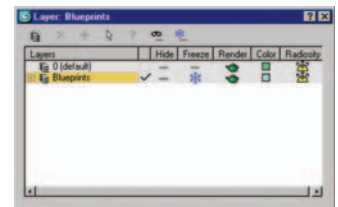

Figure 7.16 Layer Manager with the Blueprints layer frozen.
11. The final step: with all of the planes still selected (select them if they aren't already), open the Layer Manager and click Create New Layer (containing selected objects), and name the new layer "Blueprints." To the right of the layer name, you will see columns for Hide, Freeze, etc. Click the Freeze slash to "freeze" the blueprint layer (slash will turn into a snowflake). Close the Layer Manager. What you are left with is blueprints displayed in your viewport that are frozen and not selectable or renderable. This is great because you can also toggle the visibility of the blueprints independent of the other objects in your scene by using the Layer Manager. Because the objects are frozen (and unselectable), there will be no confusion when selecting objects. When working on a complex project the last thing you want to do is render a test render without remembering to hide your blueprints. By unchecking Renderable you don't need to concern yourself with this. Figure 7.16 shows the Layer Manager configured as described above.